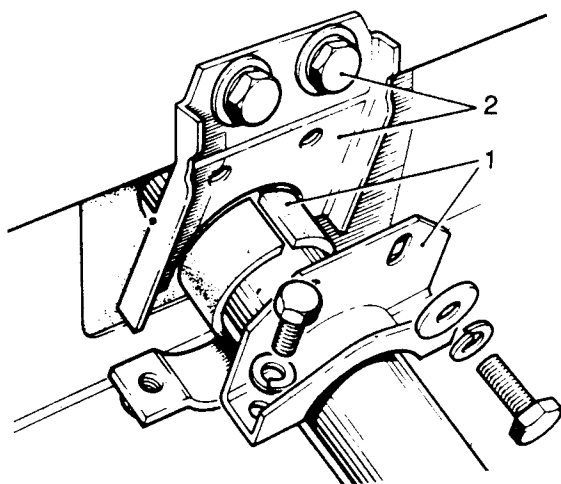

Fig L4.13
- (5) Refer to Fig L4.13. Refit the upper clamp bracket and support bracket (2) to the bulk-head.
- (6) Fit the rubber sleeve and lower clamp bracket (1) to the outer column.
- (7) Insert slotted packing pieces as required to take up clearance between the support bracket, stiffener bracket and toe box.
- (8) Secure the support bracket and stiffener bracket fixings. Torque load for support bracket to chassis fixings is 20 N.m.
- (9) Lower the front of the vehicle to the ground.